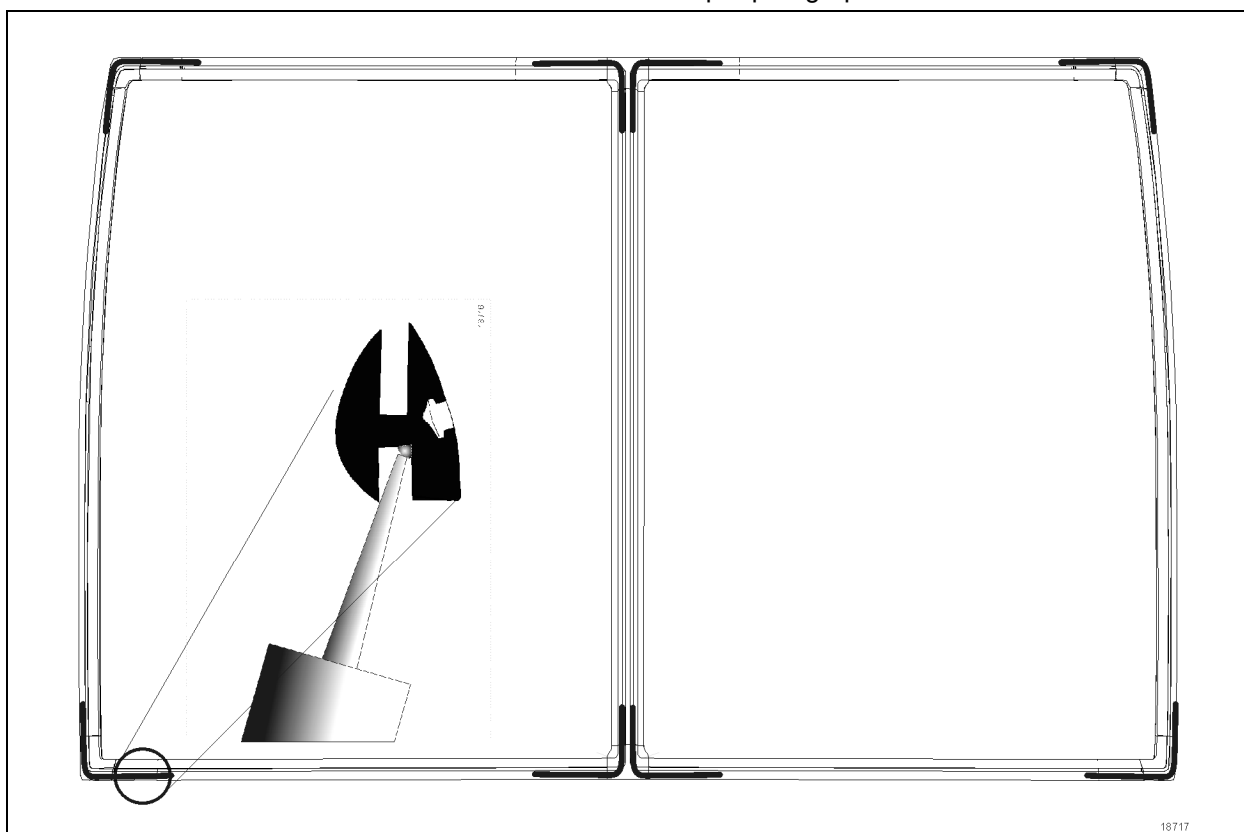

FIGURE 48: APPLICATION OF BLACK ADHESIVE
2. Apply a 1/8" bead of black Simson adhesive #684685 to all four corner of the gasket in the groove outside corner as illustrated in Figure 48. Do this *before* placing gasket on vehicle structure to control quality and continuity of bead. This method helps achieve a watertight installation.